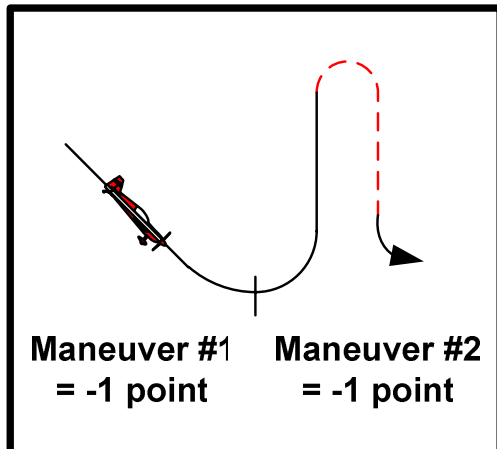

Fig. 11
All figures begin and end on definite horizontal lines, and both must be present in order to earn a good grade. A competitor who rushes from one figure to another, without showing this horizontal and well-recognizable line will be downgraded by one (1) point for each missing line in each figure affected. Therefore, leaving out the line between two figures will downgrade the preceding figure by one (1) point and the following figure also by one (1) point (Fig. 11).